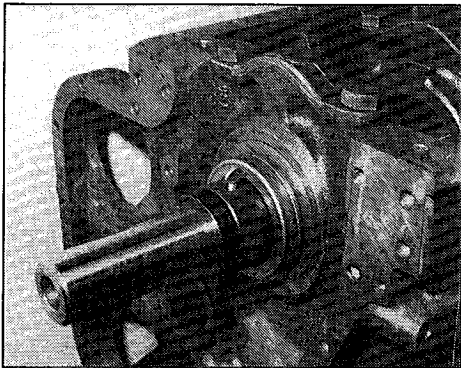

FIG. 3 FEED COLLAR INSTALLED
4. Install the Feed Collar on the boring bar on the opposite side of the thrust surface to be cut. (See Fig. 3.)